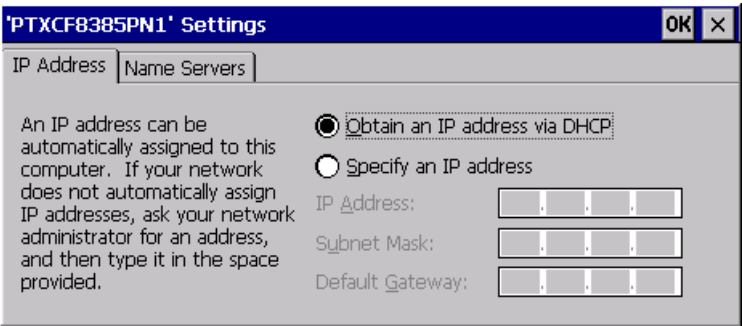

Figure 2.8 Defining An IP Address
- In the *IP Information* tab, tap on the **Configure** button. (“Figure 2.8” on page 22 is the window from which you choose the **Configure** button.)